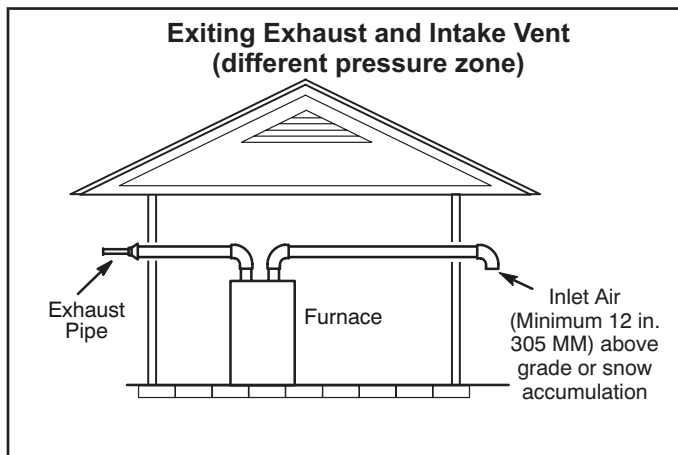
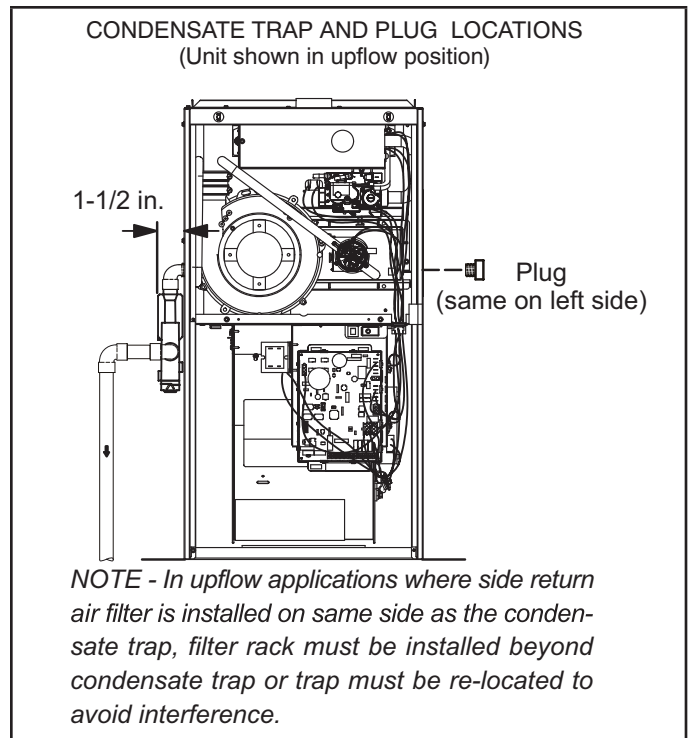
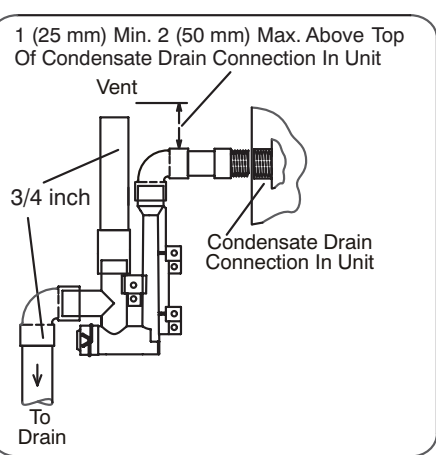

FIGURE 32
FIGURE 40
FIGURE 48
Intake and exhaust pipes may be routed either horizontally through an outside wall or vertically through the roof. In attic or closet installations, vertical termination through the roof is preferred. FIGURE 32 through FIGURE 40 show typical terminations.
This unit is designed for either right- or left-side exit of condensate piping in upflow applications. In horizontal applications, the condensate trap must extend below the unit. An 8" service clearance is required for the condensate trap. Refer to FIGURE 40 and FIGURE 42 for condensate trap locations. FIGURE 48 shows trap assembly.
- 3 - Install the cap over the clean out opening at the base of the trap. Secure with clamp. See FIGURE 48.
- 4 - Install drain trap using appropriate PVC fittings, glue all joints. Glue the provided drain trap as shown in FIGURE 48. Route the condensate line to an open drain. Condensate line must maintain a 1/4" downward slope from the furnace to the drain.